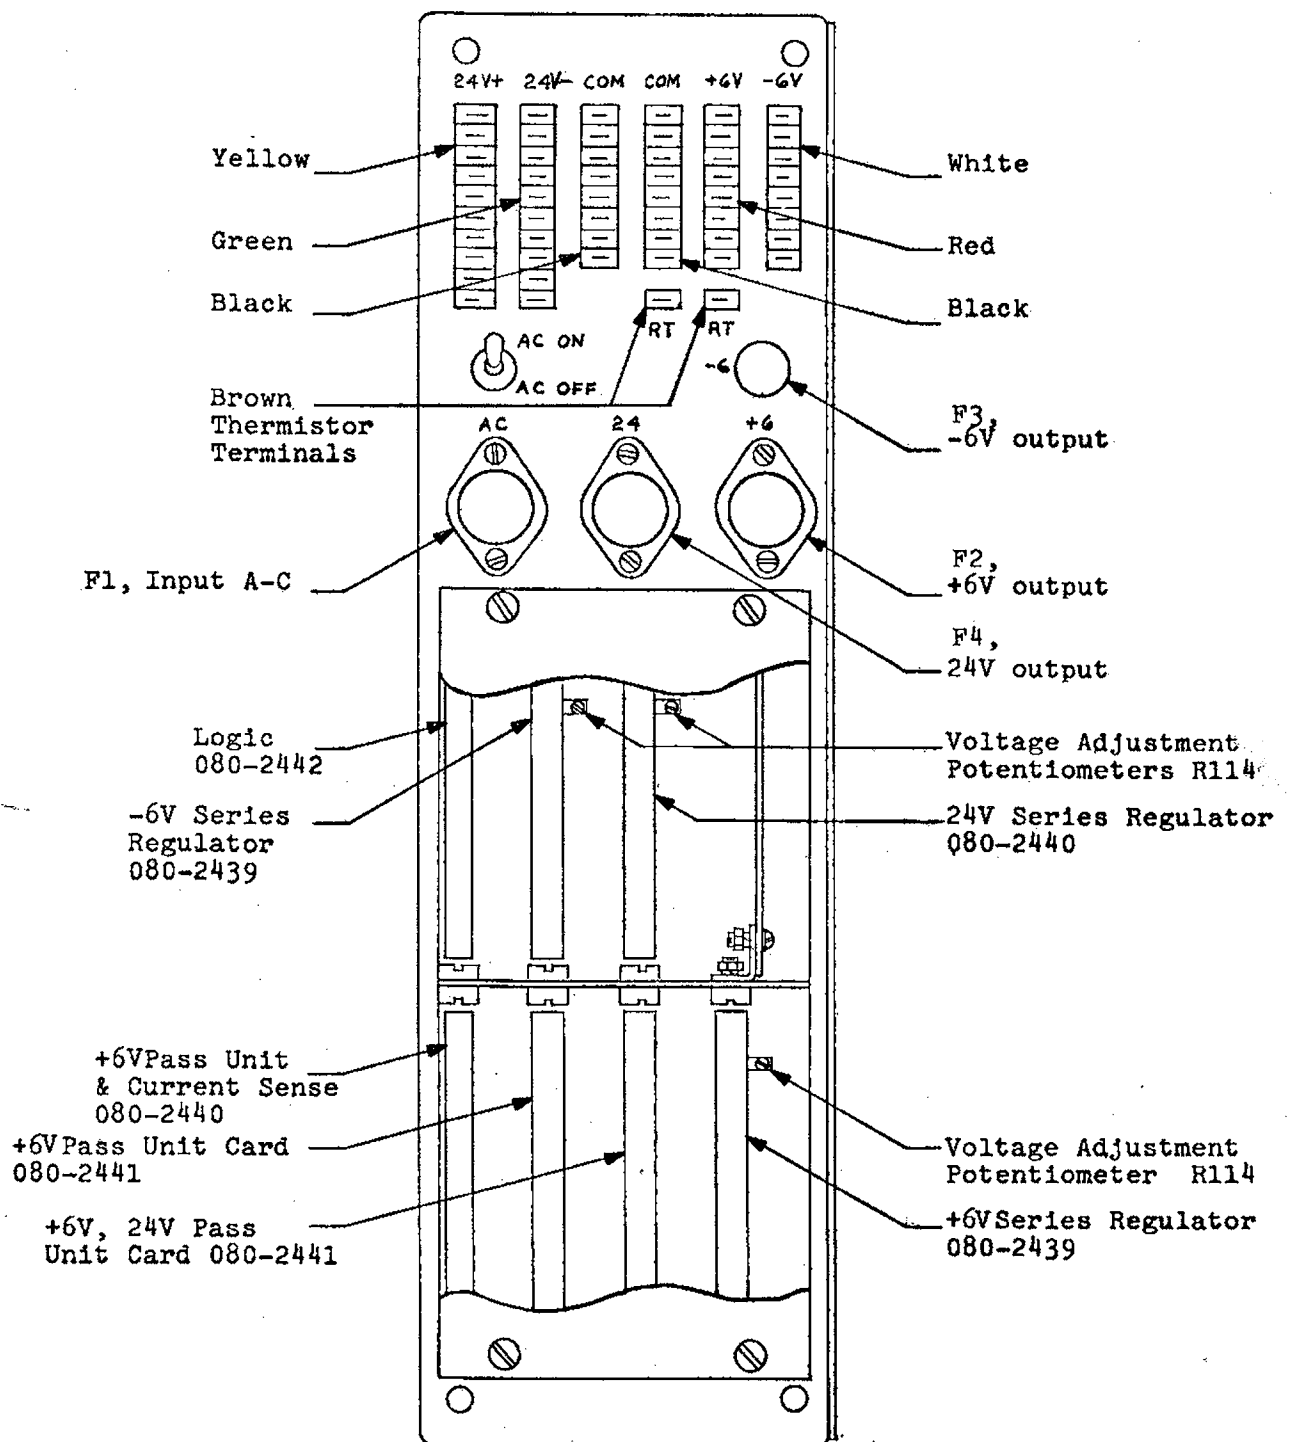

Figure 1-5. Front Panel Identification
- a. Connect dc loads to correct output terminals through the Heyco connectors on the front of the power supply (Figure 1-5).